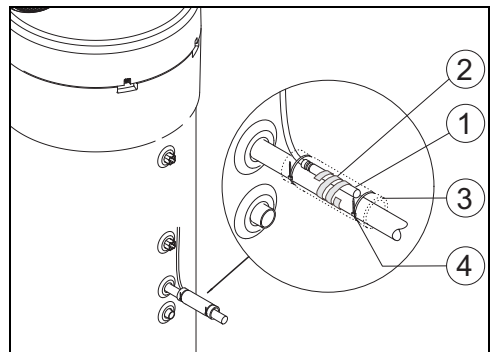

Fig. 8
- ▶ Position the temperature sensor NTC of the accessories [1] as shown in Fig. 8.